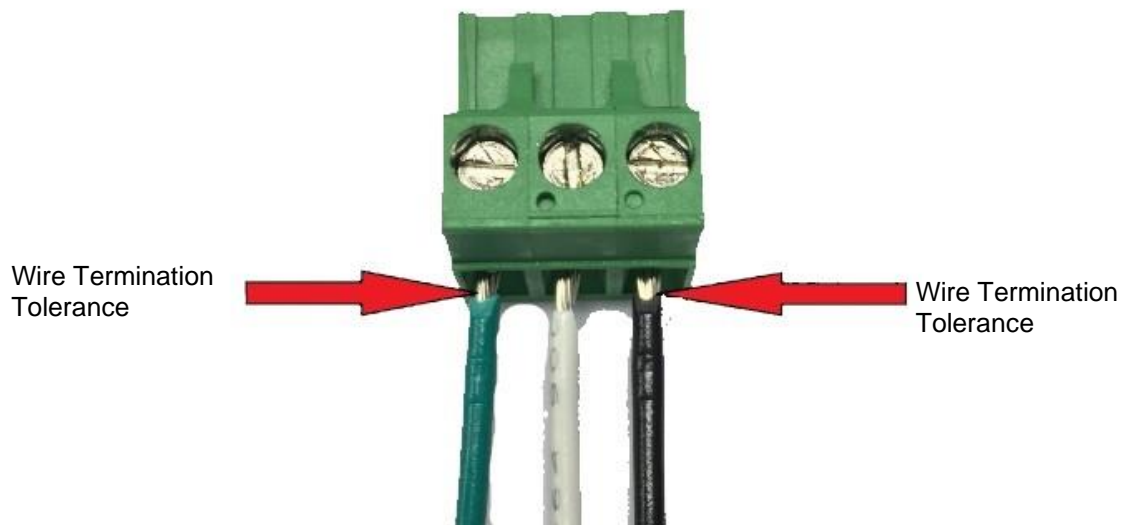

Figure 7: Wire Stripping for Power Connection
3. A Power Input Terminal Block Plug with three wires (Figure 7) is supplied with the Inspire Terminal Strip fixture. However, in case different wires are to be used, ensure the wire connection (Figure 3) and wire stripping length is correct (Figure 7), and to use only soft stranded wires to the terminal block plug. **Solid core wire should never be used directly on the terminal block.**